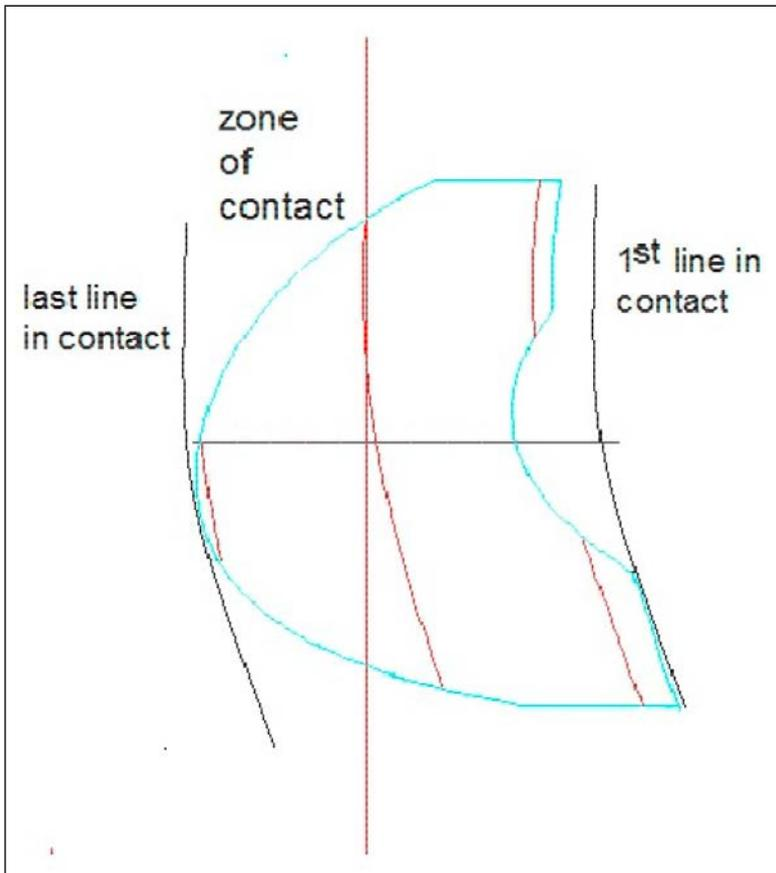

Figure 10 Contact ratio.
- The contact ratio of the worm gear can be determined by comparison of the position of the worm when the 1st line of contact is in contact with the beginning of the zone of contact and the position of the worm when the last line of contact is in contact with the end of the zone of contact (Fig. 10).